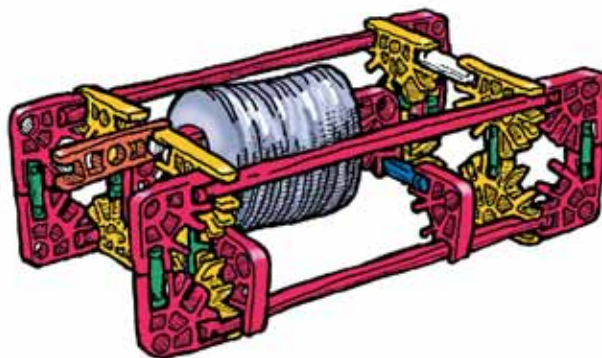
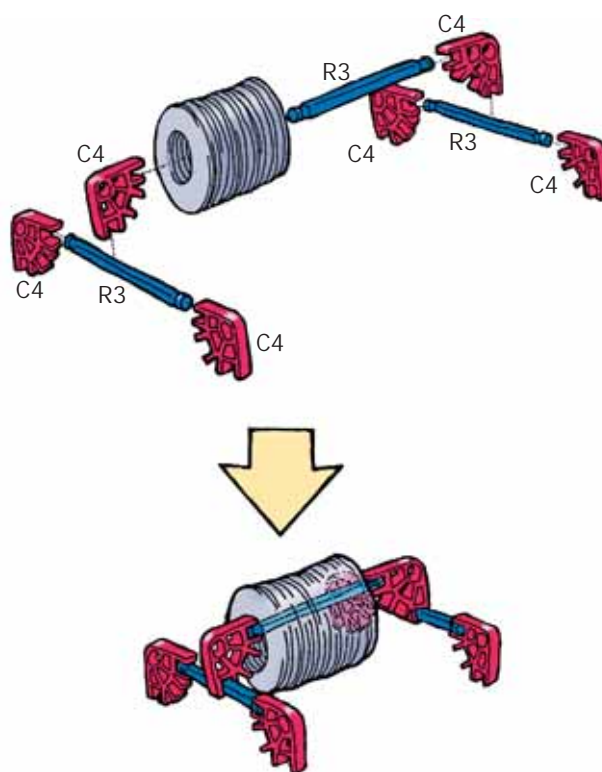

Figure 8.2 The assembled sled
Figure 8.3 How to assemble the washer seat for K'NEX® sled
10. Now build your sled using K'NEX® parts and 14 washers. Follow Figures 8.3 through 8.5 to assemble the sled. The finished sled will look like the one shown in Figure 8.2.